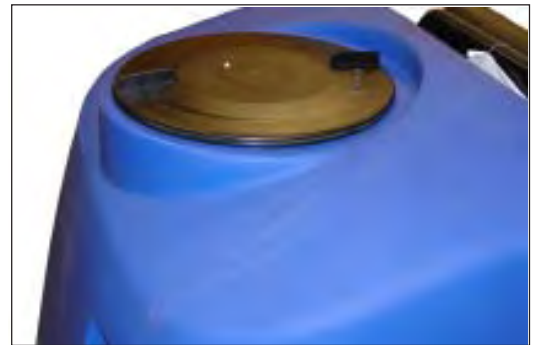

Figure 28
4. Make sure the recovery tank lid is in place and has been tightened (see figure 28).